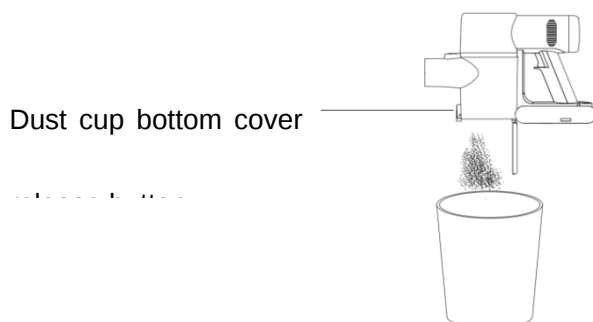

Figure 13
1. Place the main unit over the bin and press the dust cup bottom cover release button to pour out the dust (Figure 13).